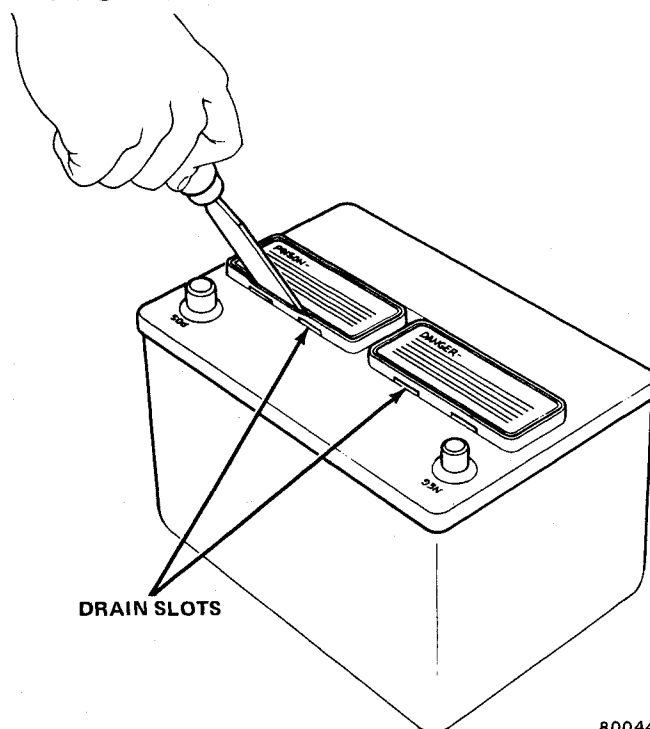

Fig. B-1 Removing Battery Filler Caps
(1) Disconnect battery negative cable and then the positive cable.
(2) Clean cables and terminal posts with a wire-brush terminal cleaner.
(3) Check battery fluid level and replenish if necessary (fig. B-1).